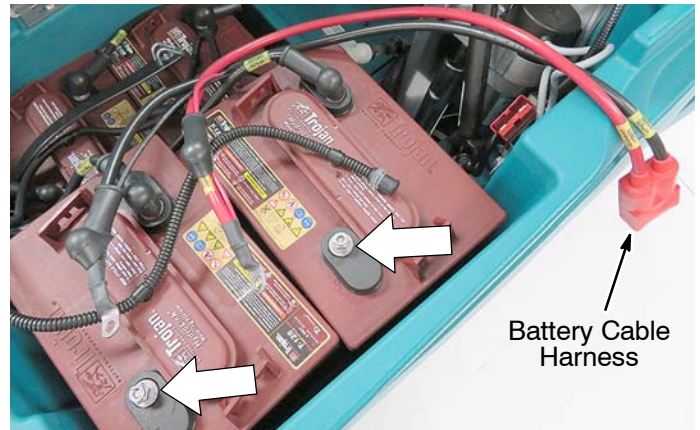

Fig. 2
4. Disconnect the battery cable harness from the batteries (Figure 2).